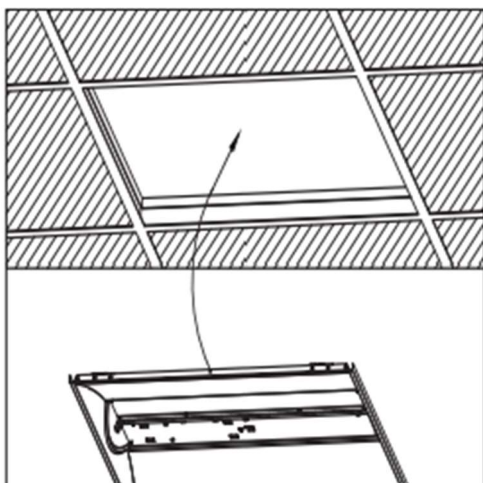

FIG. 8: CEILING INSTALLATION
- Place the fixture in the appropriate T-Grid ceiling structure. See Figure 8.